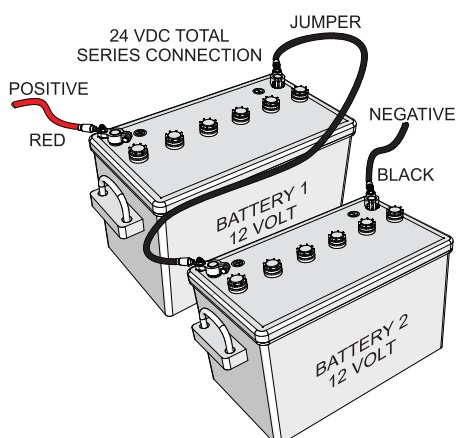

Figure 9. Battery Series Connections
**ALWAYS** be sure the battery cables (Figure 9) are properly connected to the battery terminals as shown below. The batteries are connected in series.